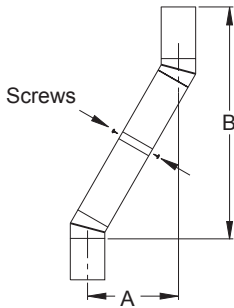

Figure 9 - Elbow Offset
Continue to assemble chimney sections as outlined above, making sure that both the inner and outer pipe sections are locked together. When installing double wall snap-lock chimney together, it is important to assure the joint between the chimney sections is locked. Check by pulling chimney upward after locking. The chimney will not come apart if properly locked. It is not necessary to add screws to keep the chimney together (exception, see Figure 9, page 8).
4. All pipe connections between the offset and return must be secured with two screws on the outer pipe only (see Figure 9, page 8). Do not penetrate the inner stainless.